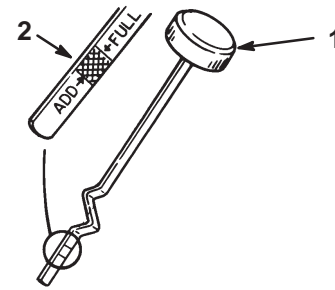

Figure 21
3. Unscrew the oil dipstick and wipe the metal end clean (Fig. 21).